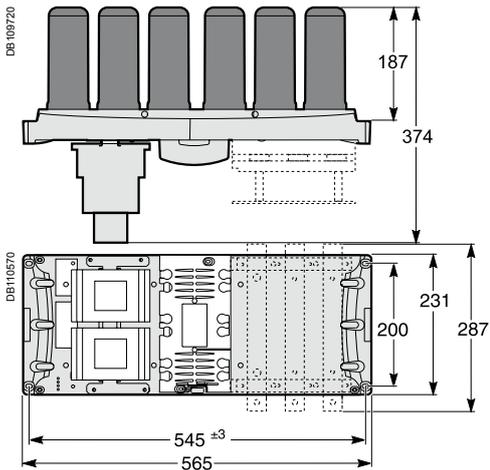

Fig. 8: power factor correction module dimensions.
- power factor correction module "with busbar" (Fig. 8): 19 kg max.